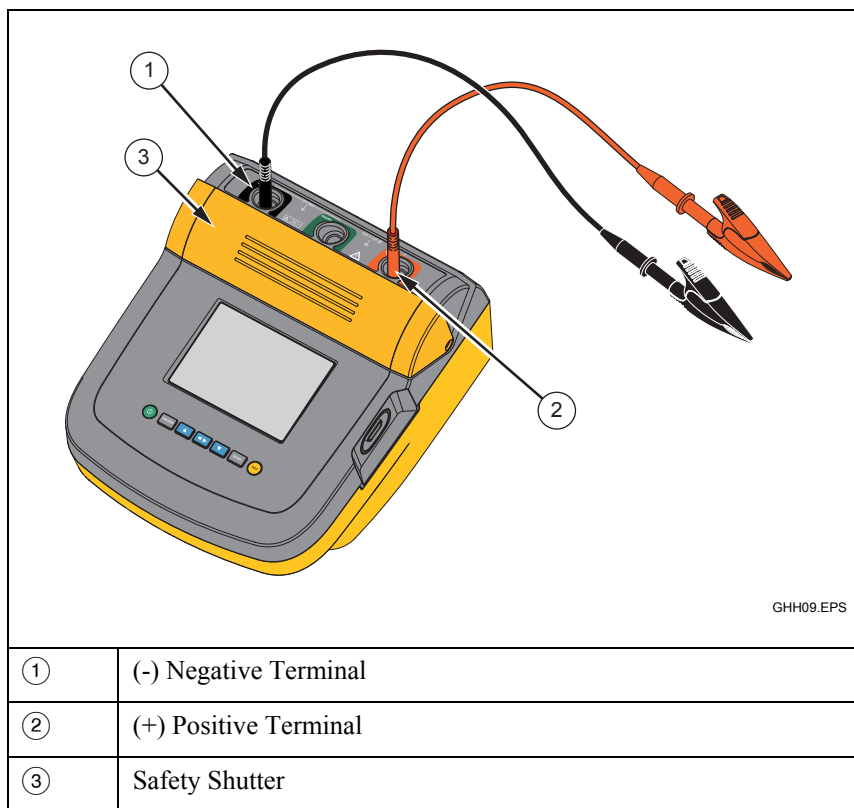

Figure 9. Test Lead Connections
2. Put the test leads into the correct terminals shown, see Figure 9.